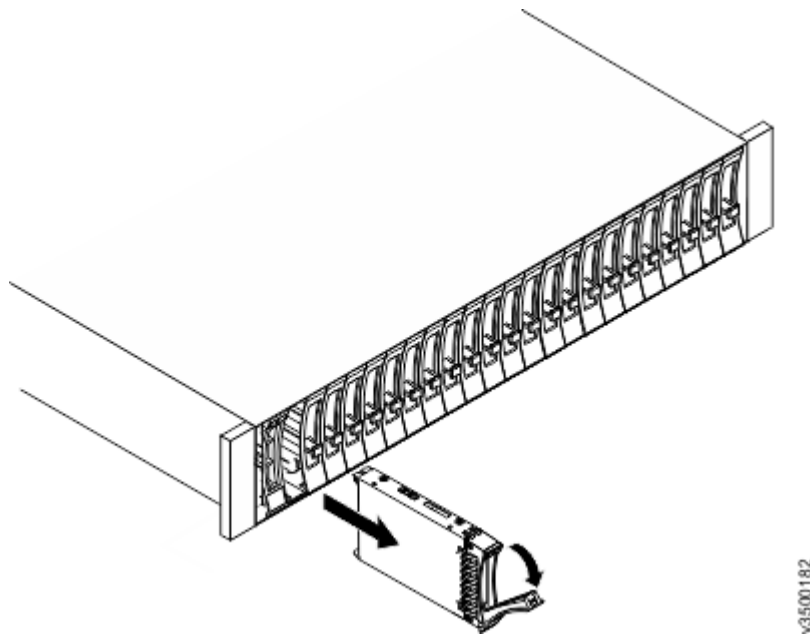
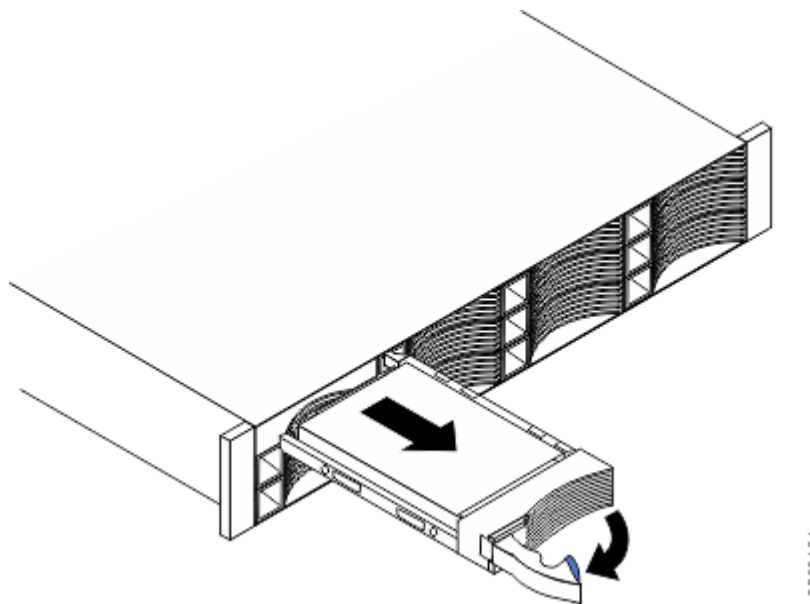

Figure 108. Removing a vertical style hard disk drive
Figure 109. Removing a horizontal style hard disk drive
6. Carefully remove each hard disk drive and label it with the drive slot from which it was removed (so that the drives can be inserted back into the same slots). Refer to Figure 108 on page 161 or Figure 109 on page 161.